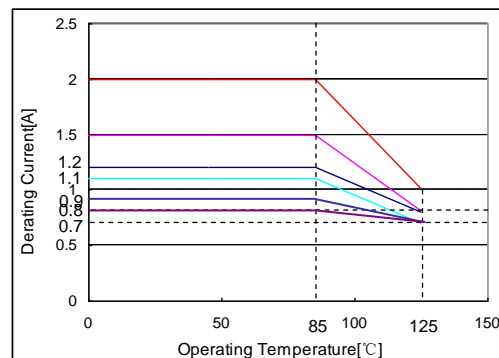

**Fig. 5.3.3-1**
- d. Definition of Rated Current (Ir): Ir is direct electric current as chip surface temperature rose just 20°C against chip initial surface temperature(Ta) (see **Fig. 5.3.3-2**).